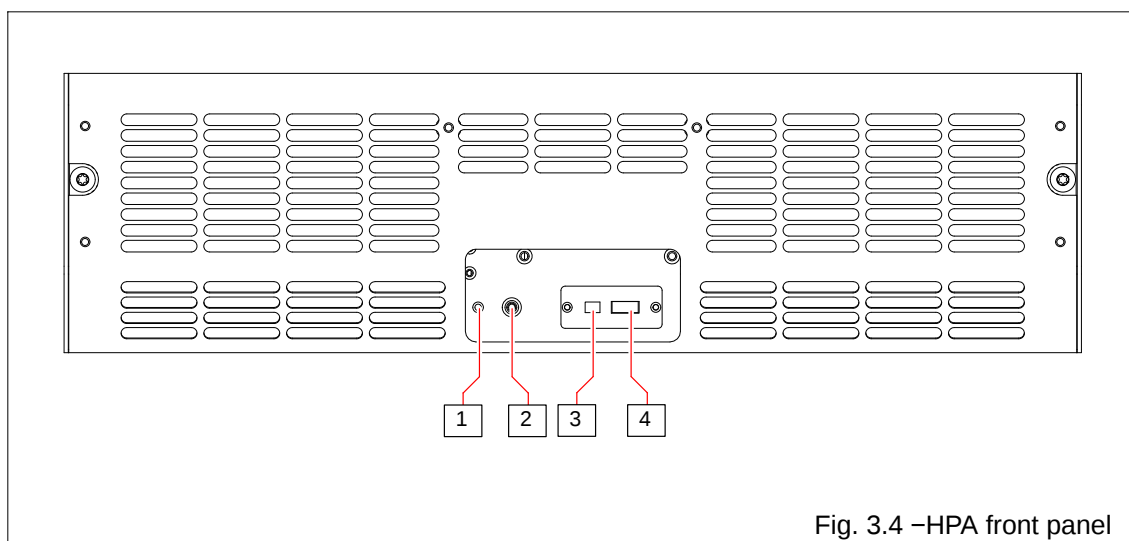

Fig. 3.4 –HPA front panel
| Tab. 3.4 | –HPA front panel (ref. Fig. 3.4) .....                          | 52 |
| Fig. 3.4  | –HPA front panel .....                               | 52 |
- Tab. 3.4 refers to Fig. 3.4 which is the call out of “HPA” front panel
| Tab. 3.4 –HPA front panel (ref. Fig. 3.4) |       |                                                                                                                                                                                                                                                                                                                                                                                                                                                                                          |